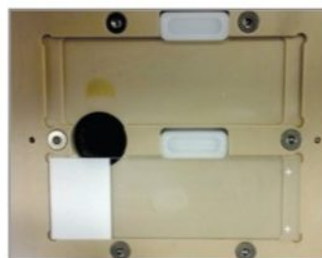

Figure 1b. Place slide onto DESI stage.
- Placement of the sample slide onto one of the two DESI slide holders, or the large area microtitre plate holder (Figure 1b).